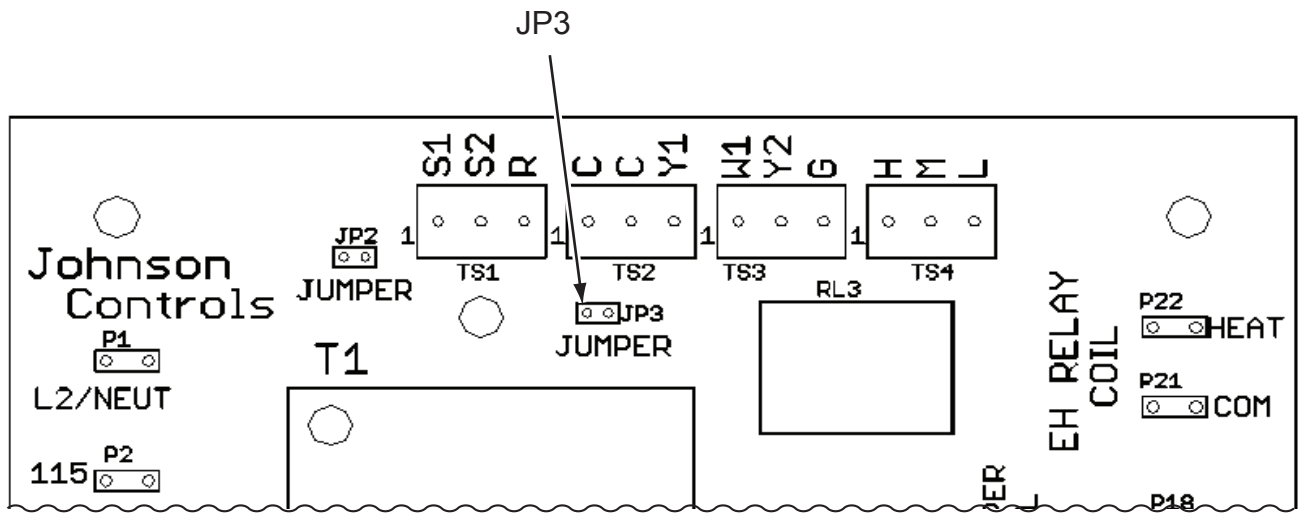
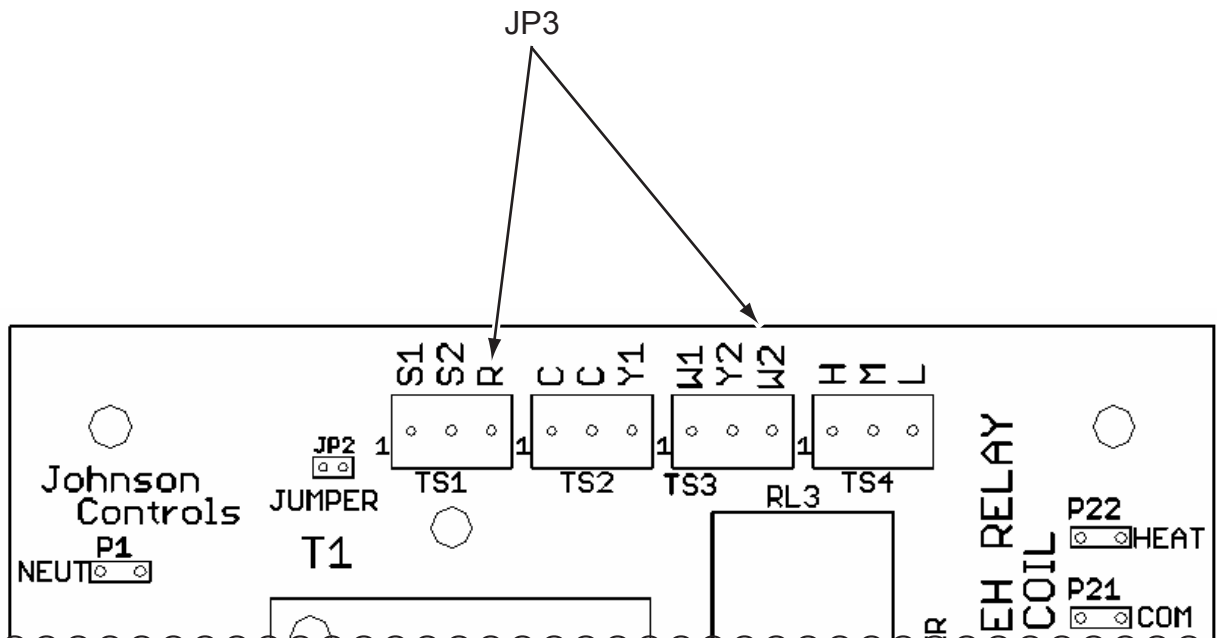

FIGURE 36 - FAN COIL RELAY BOARD (CURRENT)
FIGURE 37 - FAN COIL RELAY BOARD (OBSOLETE)
- Verify plug jumper JP3 (Figure 36 on page 57) is installed or wire (Figure 37 on page 57) is installed between W2 and R.